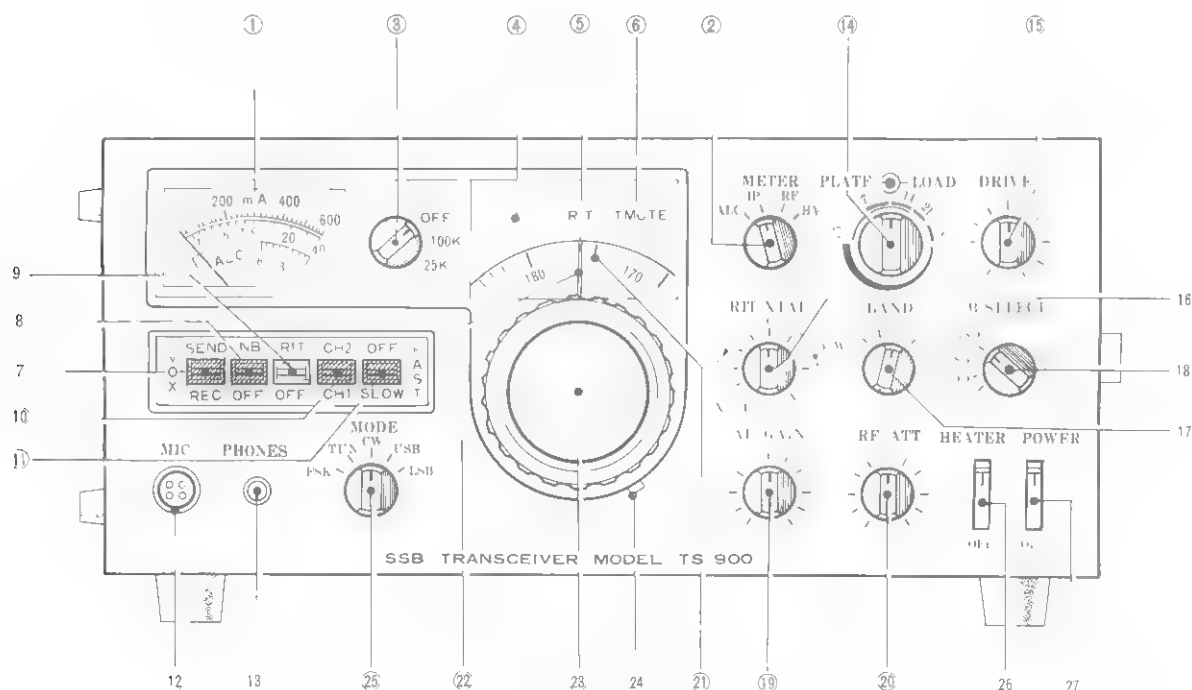

FIGURE 5. TS-900 Front Panel Controls.
3.1 FRONT PANEL CONTROLS (See Figure 5)
METER (1 on Figure 5)
METER SWITCH (2 on Figure 5)
CAL (Calibrator) SWITCH (3 on Figure 5)
RF LAMP (AGC) (4 on Figure 5)
RIT LAMP (5 on Figure 5)
T. MUTE LAMP (6 on Figure 5)
STAND-BY SWITCH (7 on Figure 5)
NB SWITCH (8 on Figure 5)
RIT SWITCH (9 on Figure 5)
FIXED CHANNEL SELECTOR SWITCH (10 on Figure 5)
AGC SWITCH (11 on Figure 5)
MIC CONNECTOR (12 on Figure 5)
PHONES JACK (13 on Figure 5)
PLATE/LOAD CONTROL (14 on Figure 5)
DRIVE CONTROL (15 on Figure 5)
RIT/XTAL CONTROL (16 on Figure 5)
BAND SWITCH (17 on Figure 5)
B. SELECT SWITCH (18 on Figure 5)
AF GAIN CONTROL (19 on Figure 5)
RF ATT CONTROL (20 on Figure 5)
DIAL SCALE (21 on Figure 5)
DIAL POINTER (22 on Figure 5)
MAIN TUNING KNOB (23 on Figure 5)
(24 on Figure 5)
MODE SWITCH (25 on Figure 5)
HEATER SWITCH (26 on Figure 5)
POWER SWITCH (27 on Figure 5)